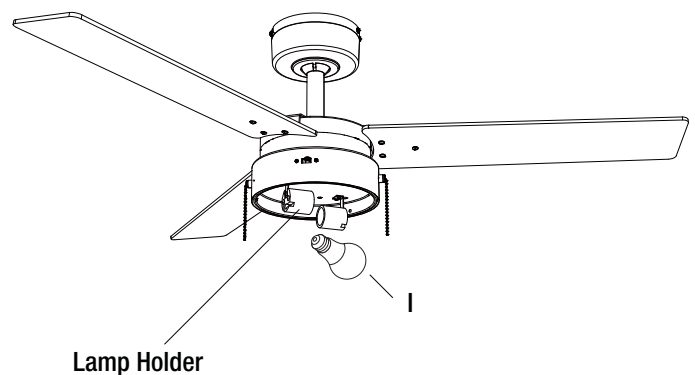

Figure 13
- Install light bulbs (I) (max. 9W, LED, medium screw base) to the lampholders (Figure 13).